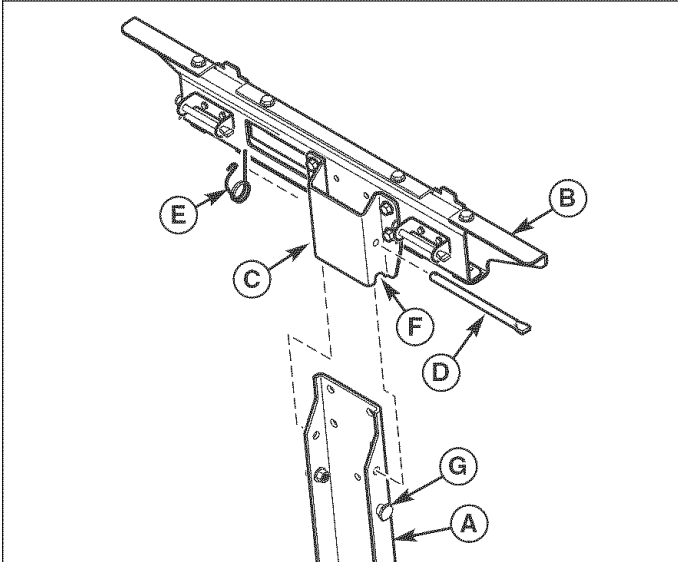

Figure 3. Install Bag and Cover Support
1. Attach the bag and cover support (B, Figure 3) to the upright support (A) by sliding the support mount (C) over the upright support (A) until the shoulder rest (F) makes full contact with the shoulder bolts (G).
2. Insert mount pin (D) through the support mount (C) and upright support (A) as shown.
3. Secure mount pin (D) with retainer spring (E).